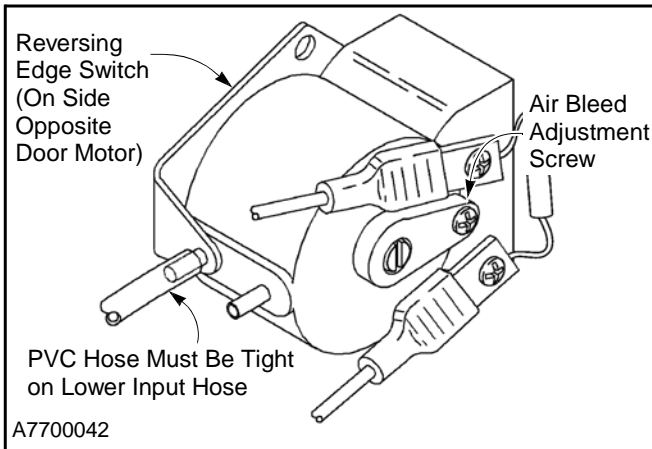

Figure 41
2. Make sure the clear PVC hose is in tight contact with the air input post so that air leakage cannot occur and that vibration will not cause the hose to fall off. Make sure the hose is not kinked. (See Figure 41.)
3. The air bleed has been set at the factory and should not require adjustment. To check the air bleed, turn the air bleed adjustment screws located on the front and back of the switch fully clockwise, but do not overtighten. Then turn the screws counterclockwise one full turn. (See Figure 41.)